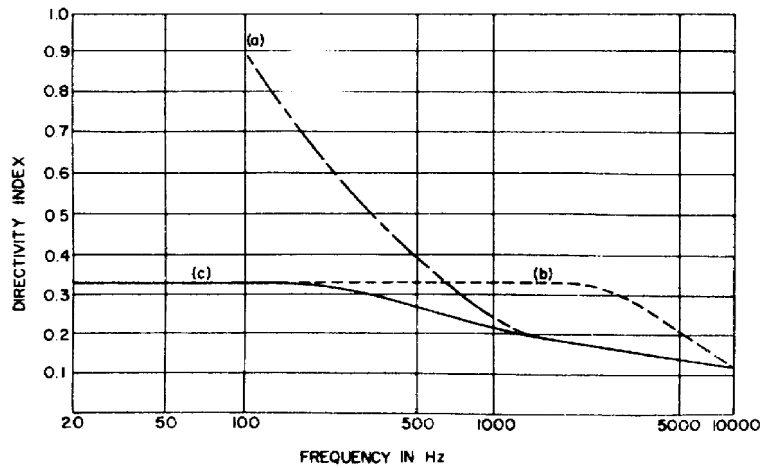

Figure 3-9. Directivity index for: (a) 11-inch line microphone, (b) cardioid microphone, (c) Electro-Voice Model 642 Cardline of dynamic microphone
a. Figure 3-9 shows a graphical plot of the directivity index versus frequency response for an 11-inch cardioid in-line microphone, and for a 1.5-inch dynamic gradient microphone with a cardioid polar pattern curves A and B.